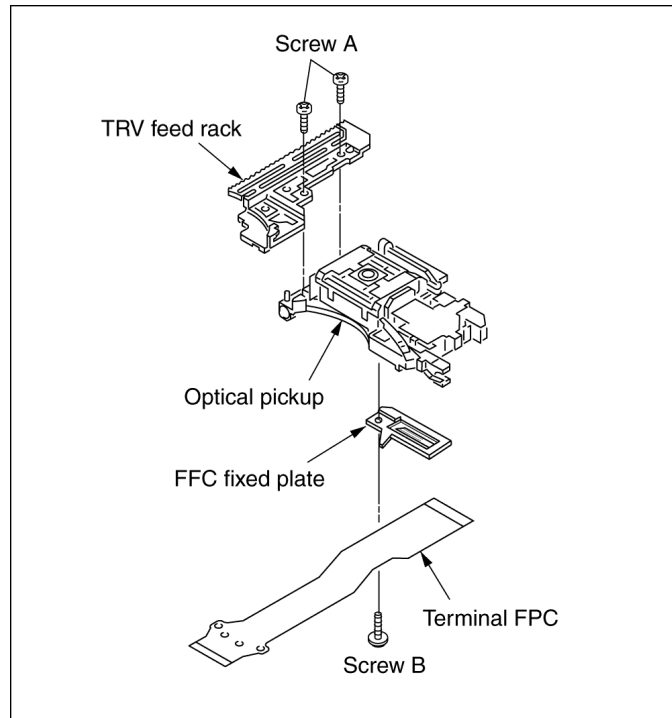

Fig. 1
1. Install the Terminal FPC, TRV feed rack on the optical pickup. (See Fig. 1)